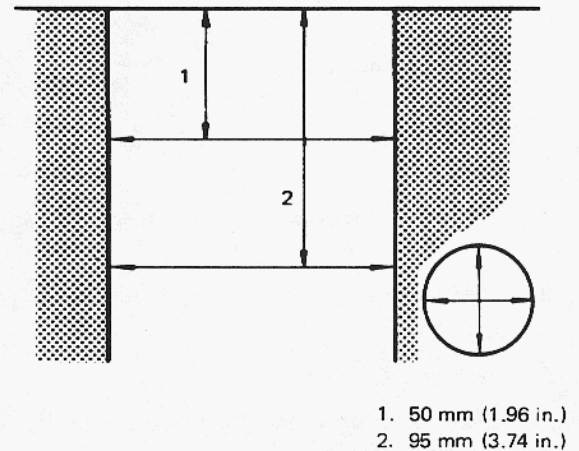

Fig. 3-5-28 Positions to be measured
- 2) Using a cylinder gauge, measure cylinder bore in thrust and axial directions at two positions as shown in Fig. 3-5-28. If any of the following conditions exists, rebore cylinder.
Cylinder bore diameters measured in thrust direction at two positions as shown in Fig. 3-5-28 should be used for calculation of piston clearance.